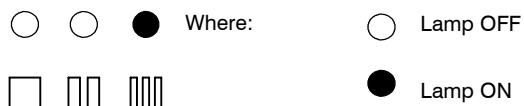

Fig. 40
- 9 Press the reset button C once until the lamps E give the indication as in Fig. 40 (boiler mode).